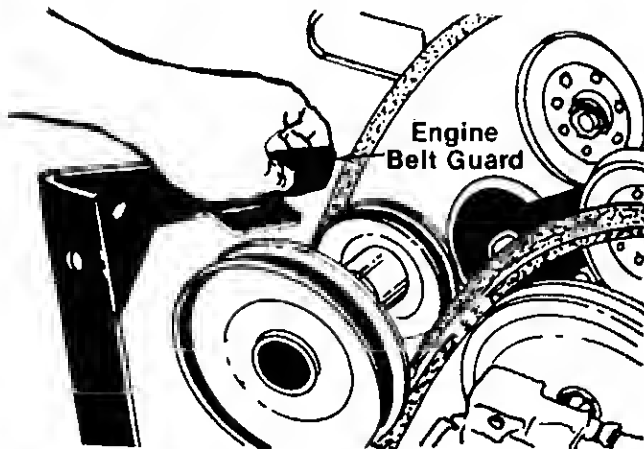

FIGURE 25.
9. Remove two hex bolts, nuts and lock washers from the engine pulley belt guard at rider frame to allow the engine pulley belt guard to drop down out of the way. See figure 25.